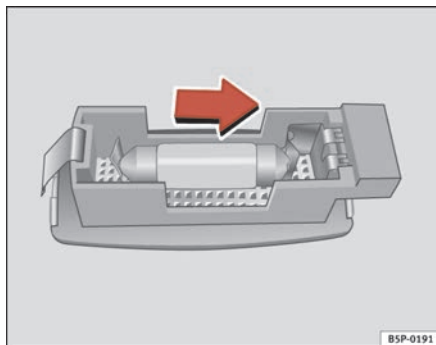

Fig. 203 Removing sunroof light
- Carefully remove the lamp, using the flat side of the screwdriver, as shown in the figure $\Rightarrow$ fig. 203.
- Remove the lamp, moving it in the direction of the arrow and outwards $\Rightarrow$ fig. 203. ■